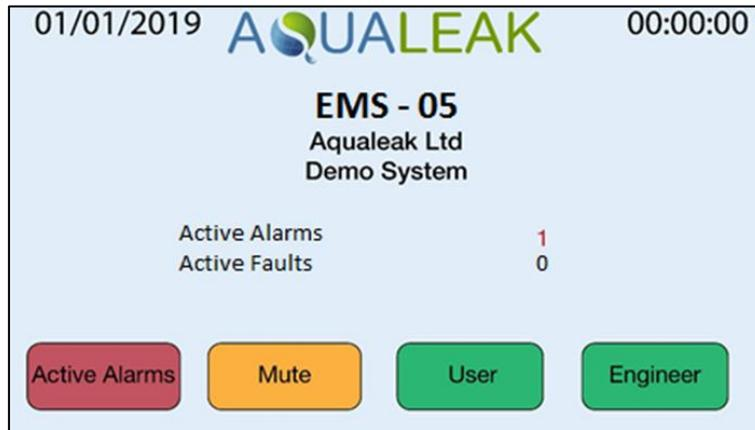
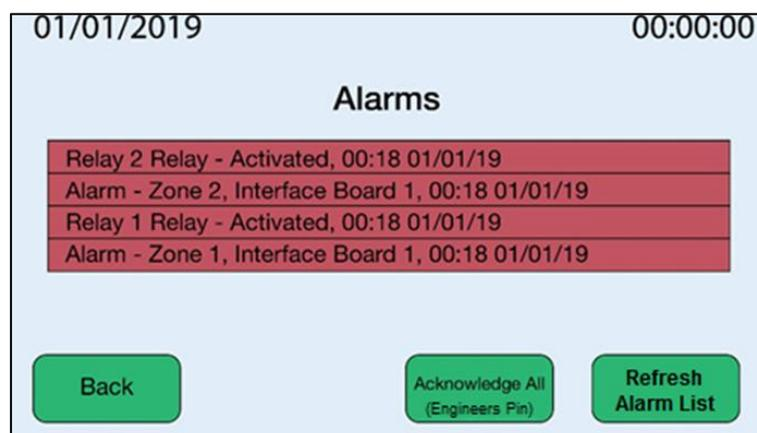

Figure 36: EMS Summary Screen with Alarm Activated
Figure 37: EMS Alarms Screen with Active Alarms Listed
Active Alarms are displayed on the **Alarms screen** (Figure 37), where the user may:
In **Figure 37** (below), water has been detected in zones 1 and 2 (Interface Board) and the zone relays are activated (i.e. **latched**):
2. Tap the red '**Active Alarms**' button (Figure 36). The **Alarms screen** will display (Figure 37).
2. Tap the amber 'Mute' button (**Figure 36**).